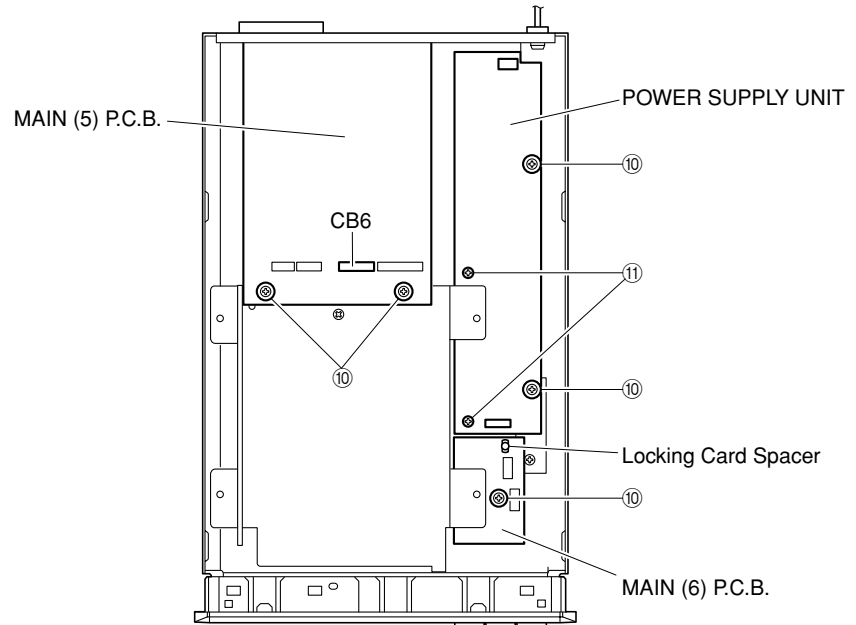

Fig. 5
- Remove 5 screws (10). (Fig. 5)
- Remove 2 screws (11). (Fig. 5)
- Loosen 1 Locking Card Spacer. (Fig. 5)
- Remove the MAIN (5), MAIN (6) P.C.B. and POWER SUPPLY UNIT.